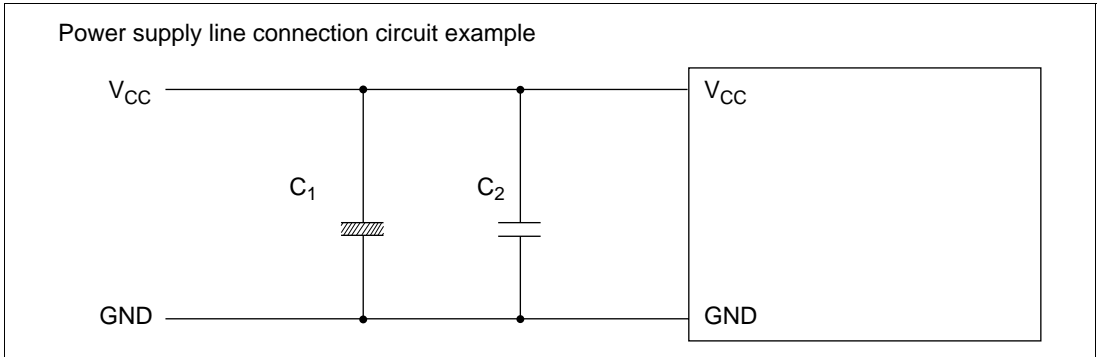

Figure 15-7 V_{CC} to Ground Circuit Example
- Connect the capacitor used in normal power supply circuit design between V_{CC} and ground. Since there will be no resistors inserted in series in the power supply circuit, the capacitors are connected in parallel. Thus a total of two capacitors, a large capacitor (C_1) and a small capacitor (C_2) are used. Figure 15-7 shows this circuit.